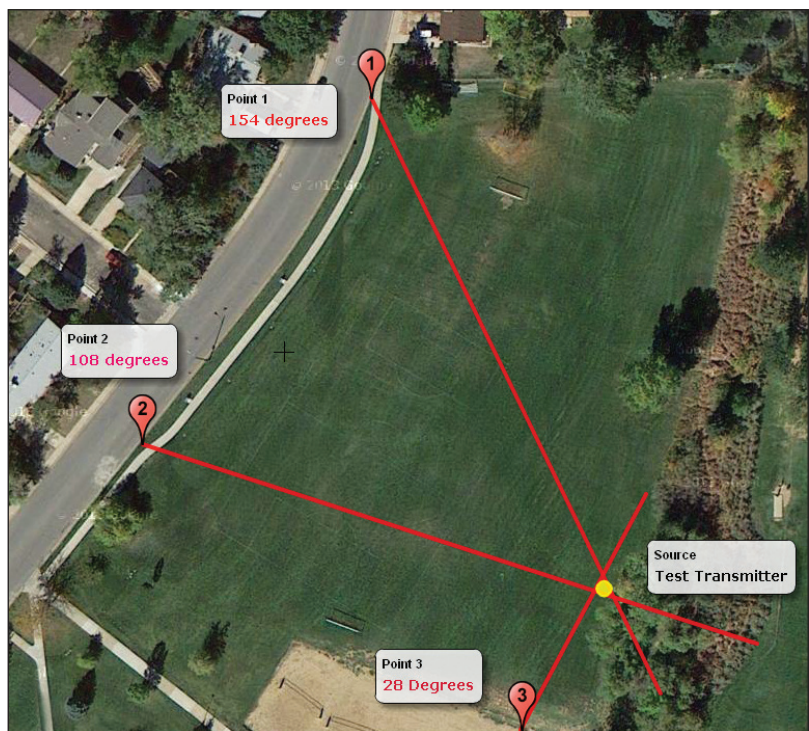

Figure 8 — Triangulation example using in a local park. [Image source: www.scribblemaps.com, copyright 2013 Google]
- (1) Take a reading at your house and rotate the loop for a null. The RFI source should be located along the line perpendicular to the broadside of the loop.
- (2) Walk about 500 feet perpendicular to the direction from the line where the null occurred and find another null. The RFI source will again be located along the line perpendicular to the broadside of the loop.
- (3) The lines should cross at the source and diverge beyond the source. Hold the loop in front of you and rotate your body back and forth until the null is well defined. Site an object on the landscape by looking through the small coupling loop. Point your compass at the object and record the reading.
- (4) Repeat steps (2) and (3) after moving about 500 feet in the other direction from your house.
- (5) Go to www.scribblemaps.com, click on *Create Your Map Now*, and type your street address, city, and state in the *Search* window. Use the \pm controls on the top right to zoom so that all of your reading points are on the map. Use the *Draw Lines* command to draw lines from each point using the compass readings you recorded. Zoom so the intersection of the two lines is on the map. Now pick a place on the map so that a new line can be drawn perpendicular to one of the two lines on the map. Go to that location with your loop and receiver and get another compass reading using the null method described in step (2). Place this line on the map just as you did previously. Due to measurement errors, these three lines will not intersect in a point but will form a triangle instead. This is the triangle of confusion. Ideally the RFI source lies within or near this triangle.
- (6) Go to the triangle location on the map with your equipment and zero in on the source.
- Figure 8 shows the results of this process when it was performed using the test transmitter and done in a nearby park. If you are not sure that you have compensated your magnetic compass correctly for magnetic